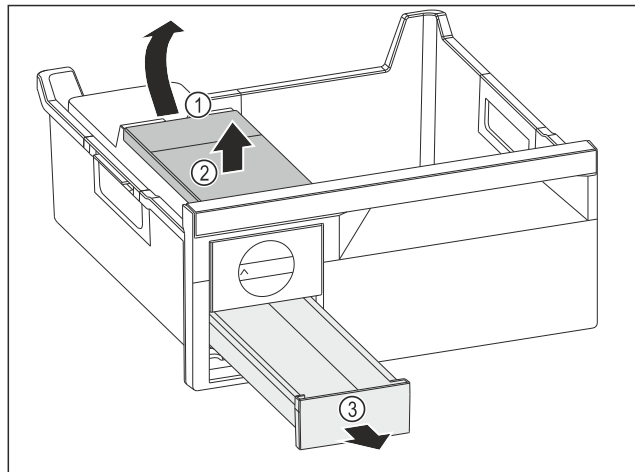

Fig. 104
- ▶ Removing the water tank: Lift the water tank by the recess Fig. 104 (1).
- ▶ Remove the water tank Fig. 104 (2) upwards.
- ▶ Remove the ice cube drawer Fig. 104 (3) to the front.